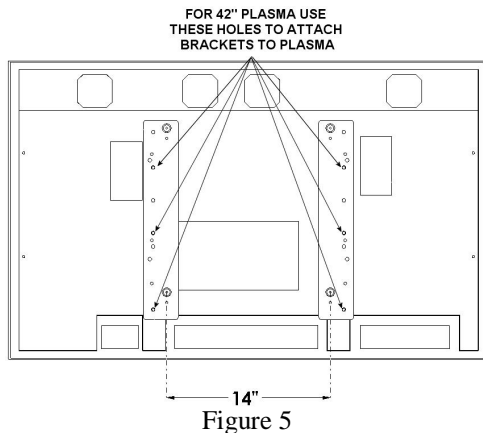
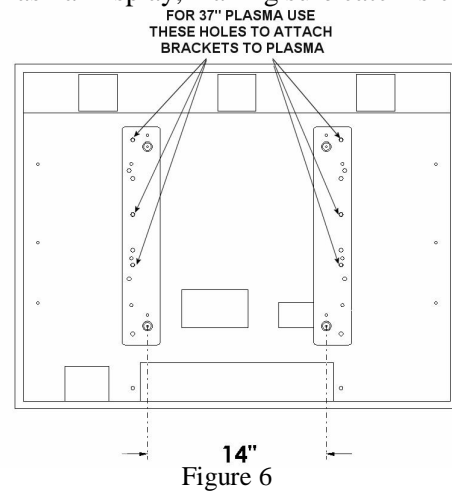

Figure 5
Figure 6
2. Align hole pattern on brackets with pattern on back of Plasma Display, such that the mounting buttons create a 14" pattern, aligning the proper set of holes for the respective plasma (see Figure 5 & Figure 6).